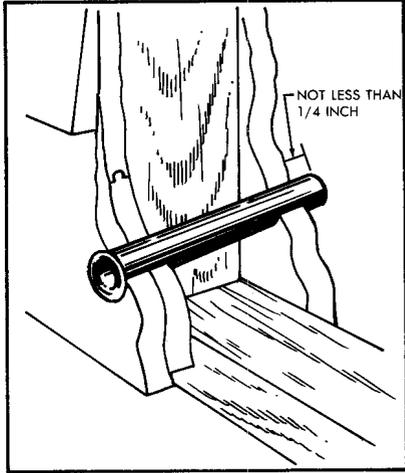

FIGURE 10. Placing Tube
11.01 Use plastic tubes at building entrance holes for drop wire where fused protection is required and the wire passes through a flammable surface. Place tube as shown in Figure 10. Cut plastic tubes with a hacksaw or diagonal pliers. Do not use split tubes at entrance holes.